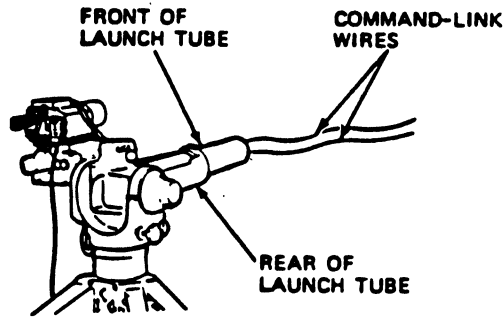

Fig 4-50. Command-link wires (front/rear of launch tube).
Step 8. Pull the command-link wires out from the front of the launch tube, check the inside rear of the launch tube for dirt, and clean with a cloth, if necessary (fig 4-50).